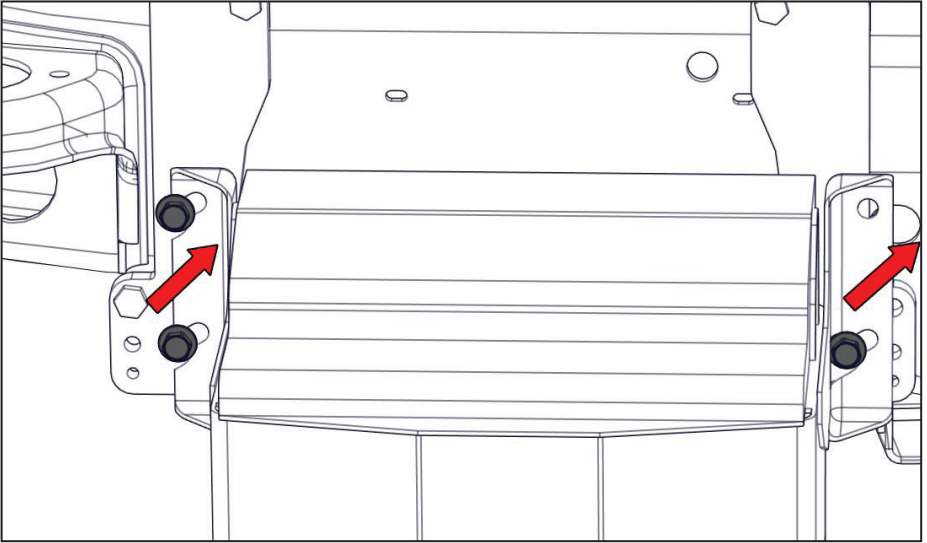

Figure 74 — Installing the battery box
- ☐ Loosen the (x2) forward fasteners and the lower rear fastener securing the battery box to the mounting brackets and lift the battery box up and to the rear of the vehicle to remove it from the bracket (Figure 74).